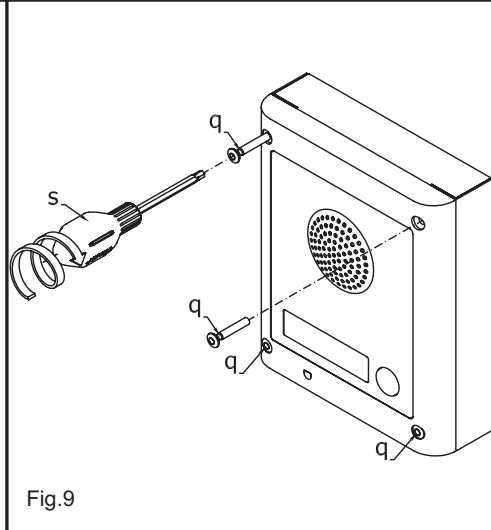

Fig.9
8. When the system has been tested and is working correctly, move back the module support frame carefully, fix it to the surface box using the provided screwdriver **s** (blade torx side) and the pin machine torx screws **q** as shown in figure 9.